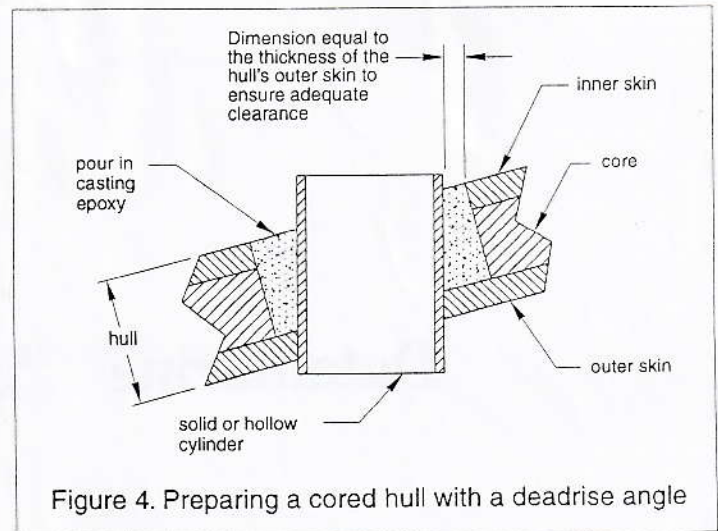

Figure 4. Preparing a cored hull with a deadrise angle
- Drill a 3mm or 1/8" pilot hole perpendicular to the waterline from inside the hull (see Figure 4). If there is a rib, strut, or other hull irregularity near the selected mounting location, drill from the outside. (If the hole is drilled in the wrong location, drill a second hole in a better location. Apply masking tape to the outside of the hull over the incorrect hole and fill it with epoxy.)
- Coat a hollow or solid cylinder of the correct diameter with wax and tape it in place. Fill the gap between the cylinder and hull with casting epoxy. After the epoxy has set, remove the cylinder (see Figure 4).